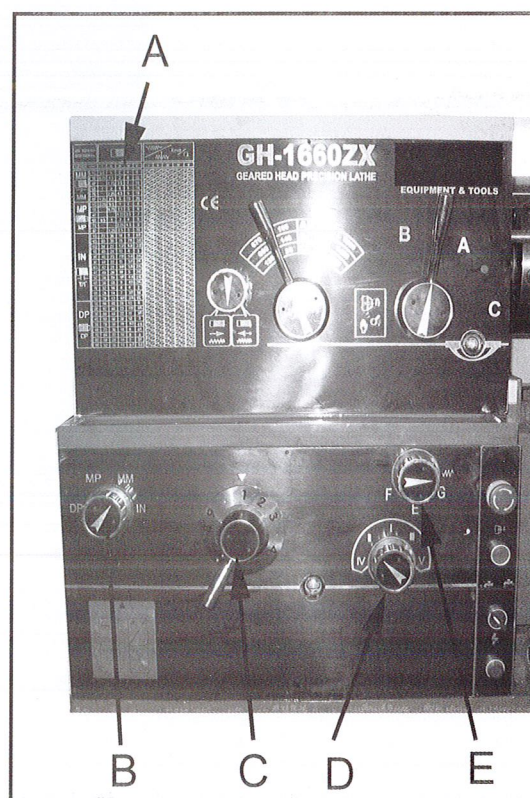

Fig.16
1. Reference the feed and thread chart. Found on front of the headstock (A, Fig.16).
2. Move levers and knobs (B, C, D, E, Fig.16) to the appropriate position according to the feed and thread chart.